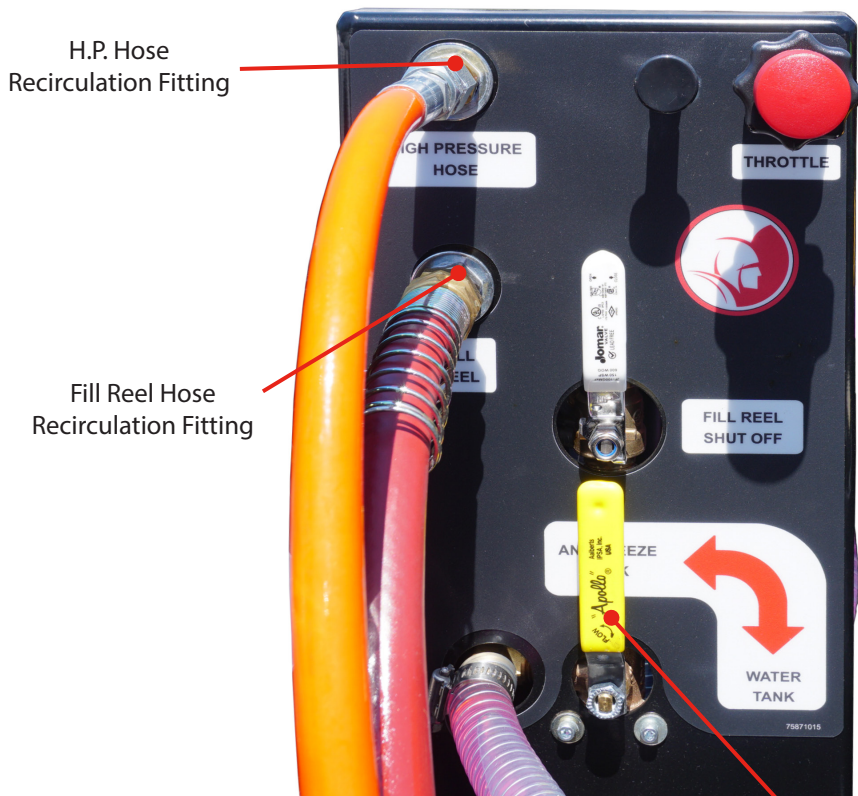

Fig. 22.1
4. Move the selector valve to "Antifreeze Tank" (Fig. 22.1).
4. Confirm recirculation selector valve is set to "Antifreeze Tank" (Fig. 22.1) and fill reel valve is open (Fig. 21-3).